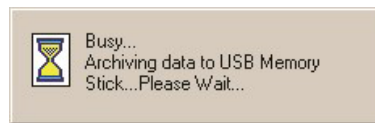

Figure 4.39 Archive to USB Memory Stick in Process
- Data archiving will typically take 10-30 seconds to complete. While the data is being archived a message screen will appear indicating that the archive is in process (Figure 4.39).